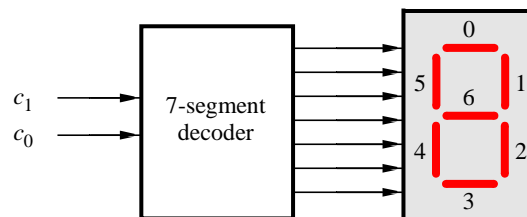

Figure 6: A 7-segment decoder.
The objective of this part is to display a character on a 7-segment display. The specific character displayed depends on a two-bit input. Figure 6 shows a *7-segment decoder* module that has the two-bit input  $c_1c_0$ . This decoder produces seven outputs that are used to display a character on a 7-segment display. Table 2 lists the characters that should be displayed for each valuation of  $c_1c_0$  for your DE-series board. Note that in some cases the ‘blank’ character is selected for code 11.
2. Create a Verilog module for the 7-segment decoder. Connect the  $c_1c_0$  inputs to switches  $SW_{1-0}$ , and connect the outputs of the decoder to the  $HEX0$  display on your DE-series board. The segments in this display are called  $HEX0_0, HEX0_1, \dots, HEX0_6$ , corresponding to Figure 6. You should declare the 7-bit port